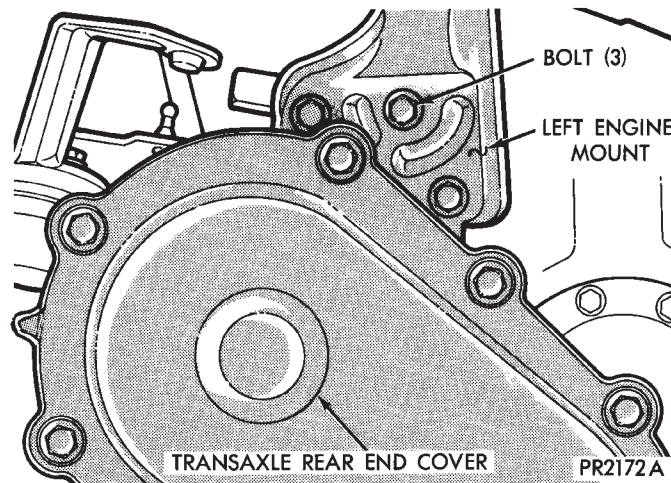

Fig. 10 Remove Left Transmission Mount
(16) With transmission jack in position, remove the left transmission mount (Fig. 10).